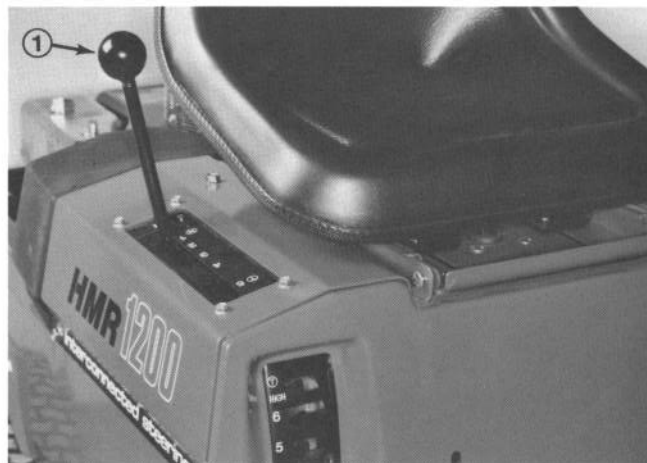

Figure 38
2. Check position of gear shift lever. Lever should be centered in neutral slot when viewed from side of machine (Fig. 38).